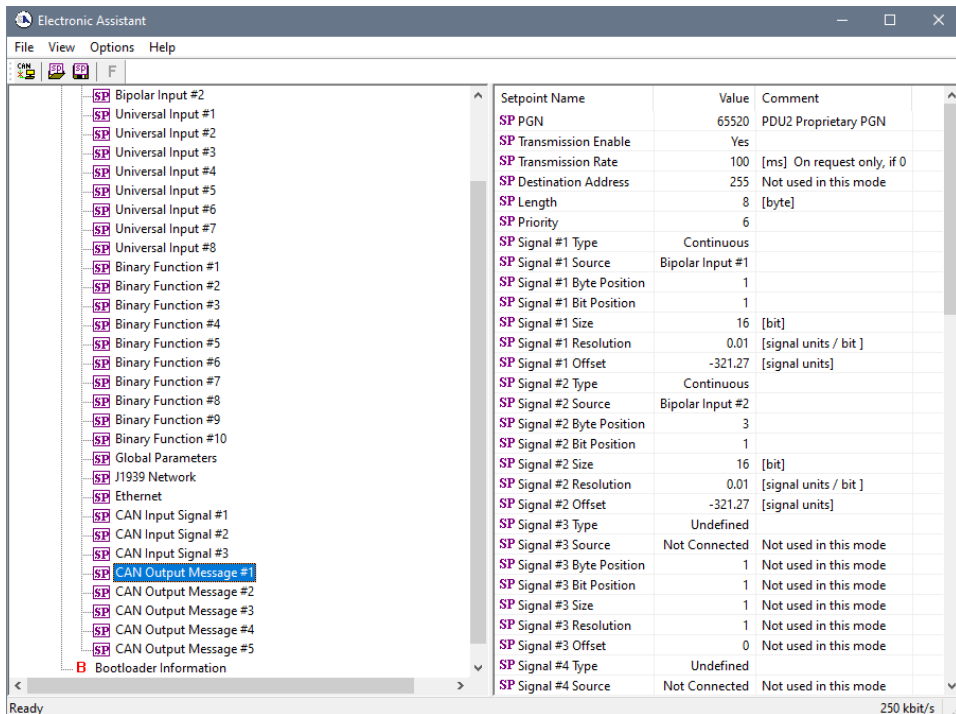

Figure 20. CAN Output Message #1 Example Configuration
Now configure CAN output messages. Configure *CAN Output Message #1*. First set common parameters to all CAN output signals. Set *PGN* to 65520, *Transmission Enable* to “Yes”, *Transmission Rate* to 100 ms. Keep default values for *Length* (8 bytes) and *Priority* (6), see Figure 20.